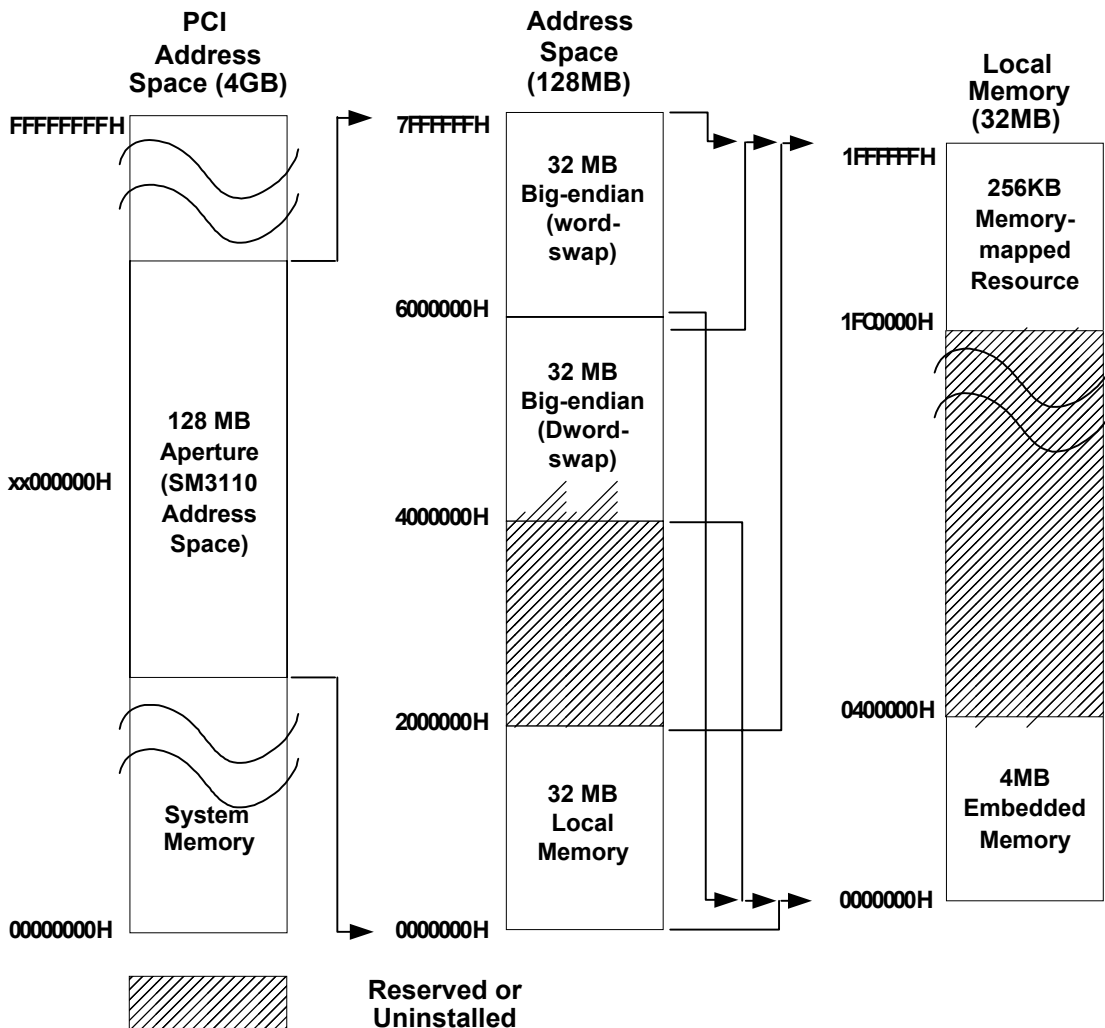

Figure 6-1. SM3110 Address Space Allocation
The term “local memory” refers to the 32MB linear address space within which the SM3110 maps all of its available embedded memory, as well as its internal registers and memory-mappings of VGA and PCI registers. In order to support all variations of little-endian/big-endian and word/double word byte-swapping architectures, the SM3110 requires a total address space of 128MB (out of the 4GB available) address space. The four(4) individual 32MB address spaces are multiply-mapped to the one 32MB local memory area required. This is shown in Figure 6-1.
Also shown in Figure 6-1 is a further division of the 32MB local memory addresses into two areas: